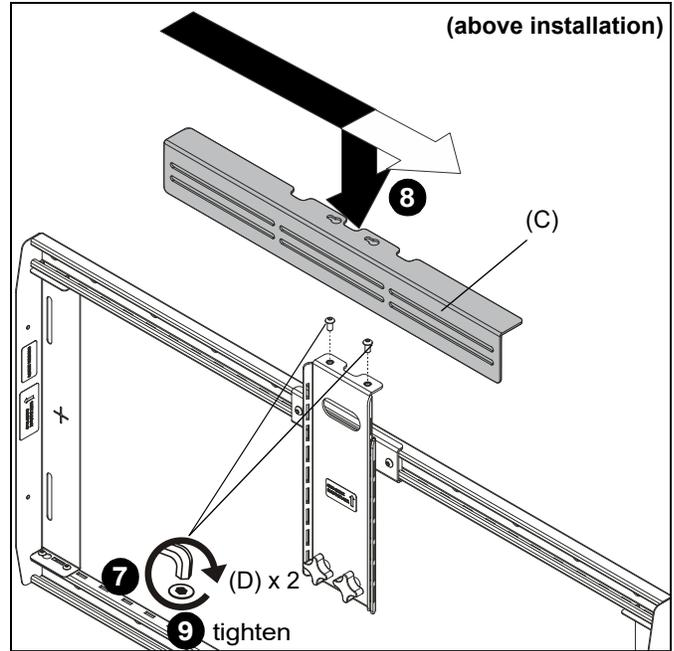
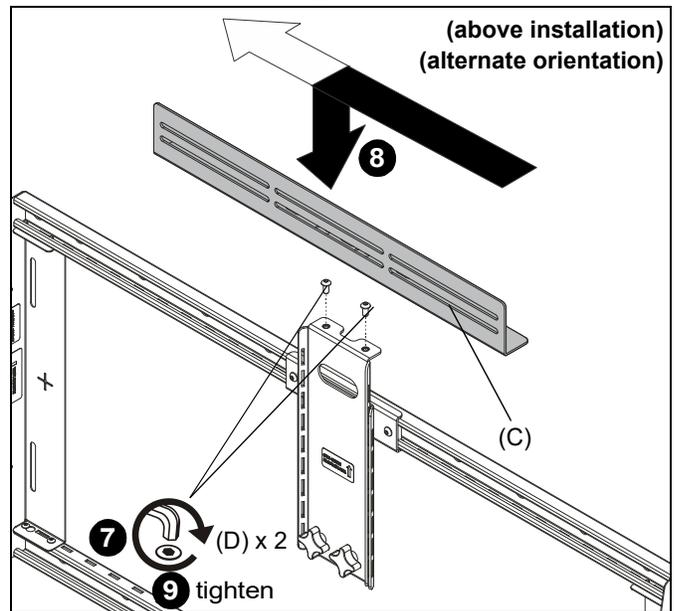

Figure 7
Figure 8
7. Loosely install two 1/4-20 x 1/4" button head cap screws (D) into top holes on height-adjustable bracket (A). (See Figure 7) or (See Figure 8)
8. Install adapter bracket (C) onto screws installed in Step 1 and slide back into the narrow part of the keyhole. (See Figure 7) or (See Figure 8)
9. Tighten screws (D) to secure adapter bracket (C). (See Figure 7) or (See Figure 8)